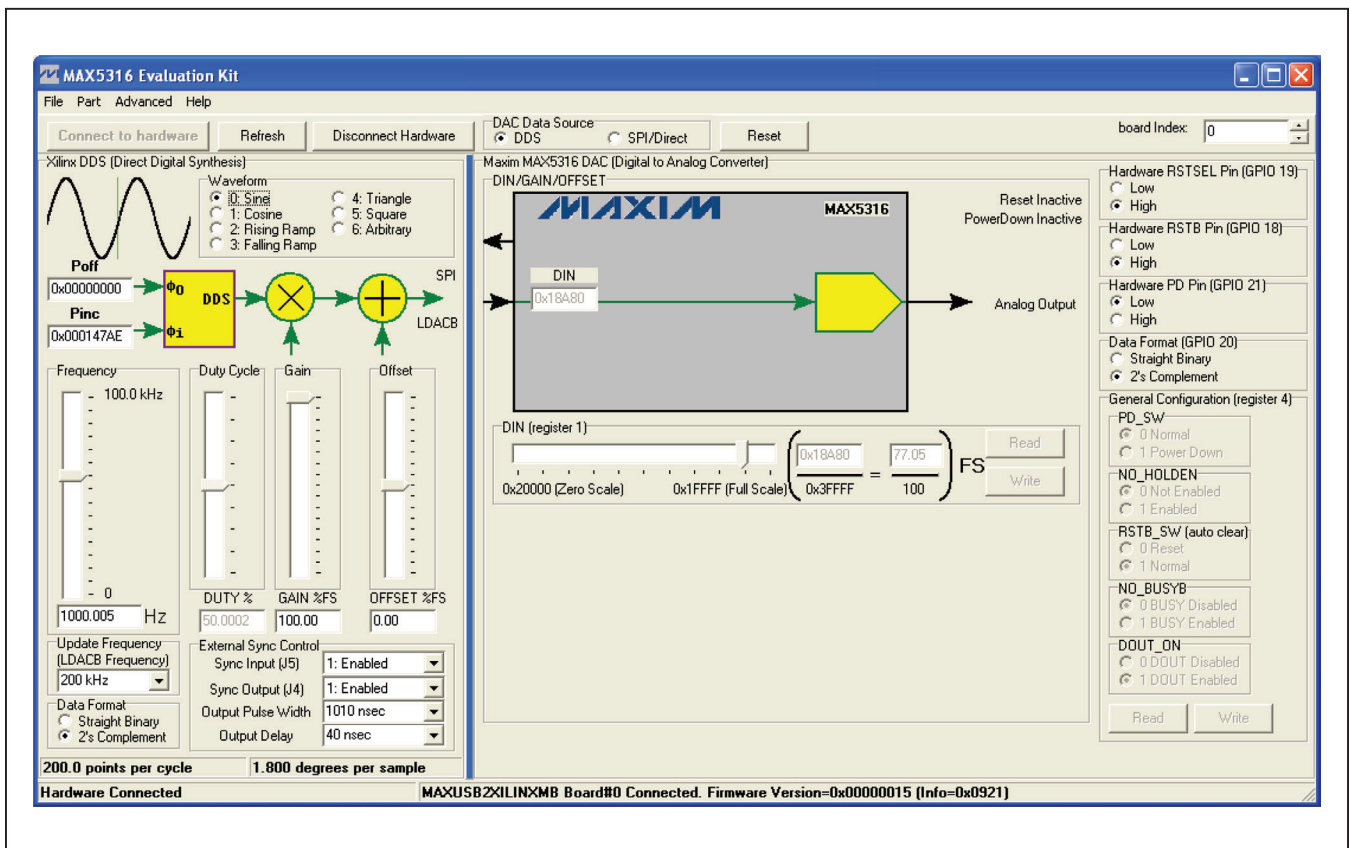

Figure 2. MAX5316 EV Kit Software Main Window (Block Diagram Tab)
- 16) Start the EV kit software by opening its icon in the Windows **Start | Programs** menu. The EV kit software main window appears, as shown in Figure 2. Within 5s, the software should automatically connect to the hardware; verify that **MAX5316EVKIT Hardware Connected** appears in the bottom-left status bar.